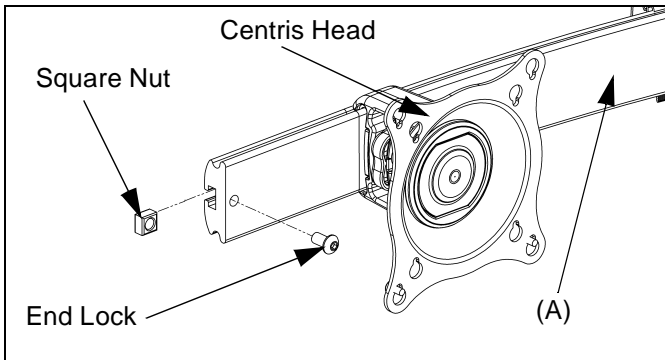

Figure 6
1. Uninstall end lock using the 5/32" hex key (F). (See Figure 6)
2. Remove Centris head from array rail (A).